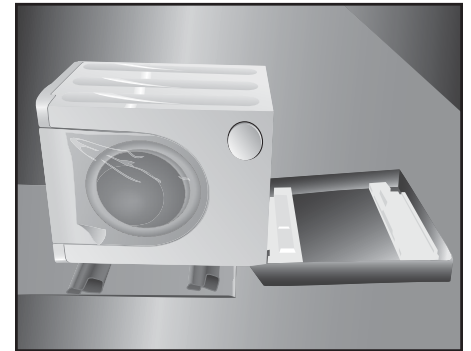

Figure 2
5. Lay the washer/dryer on its **LEFT** side as shown in **Figure 2**.